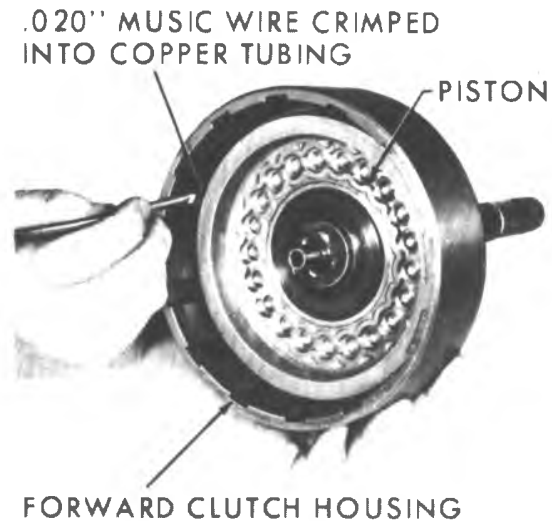

Figure 7A5-67 Installing Forward Clutch Piston
4. Install spring retainer. Compress spring retainer and install retaining ring using Tool J-23327 as shown on Figure 7A5-64).